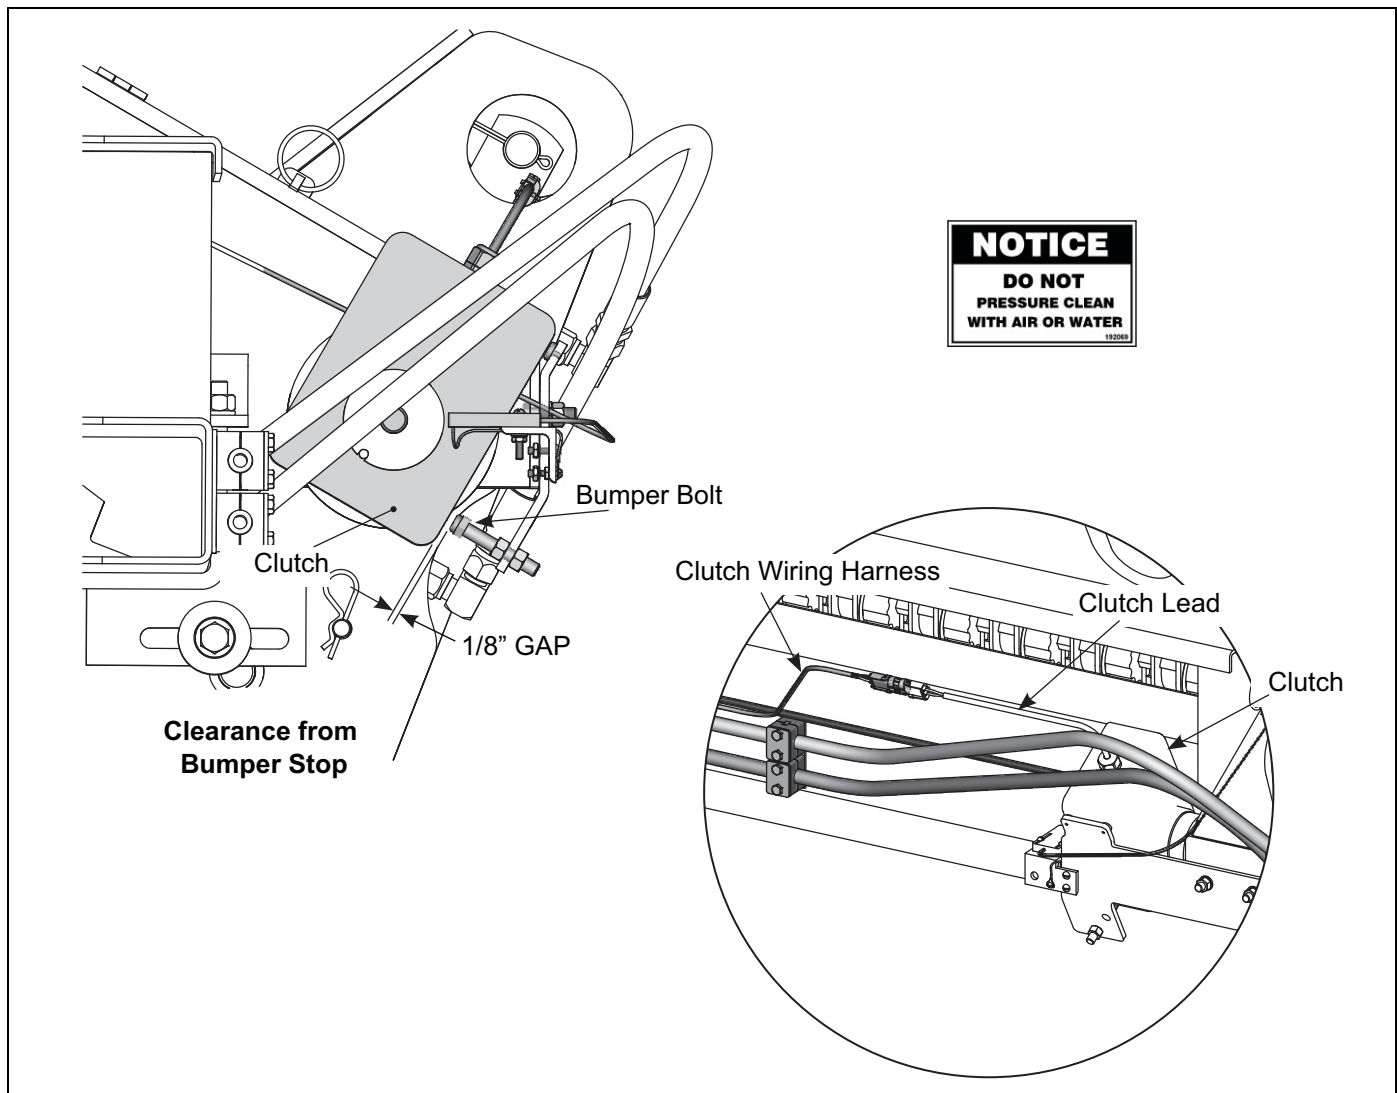

Figure 2-19: Electric Clutch
5. Check that the clutch case has proper clearance between rubber bumper stop. Improper clearance may prevent the clutch from engaging or disengaging. **See Figure 2-19.**